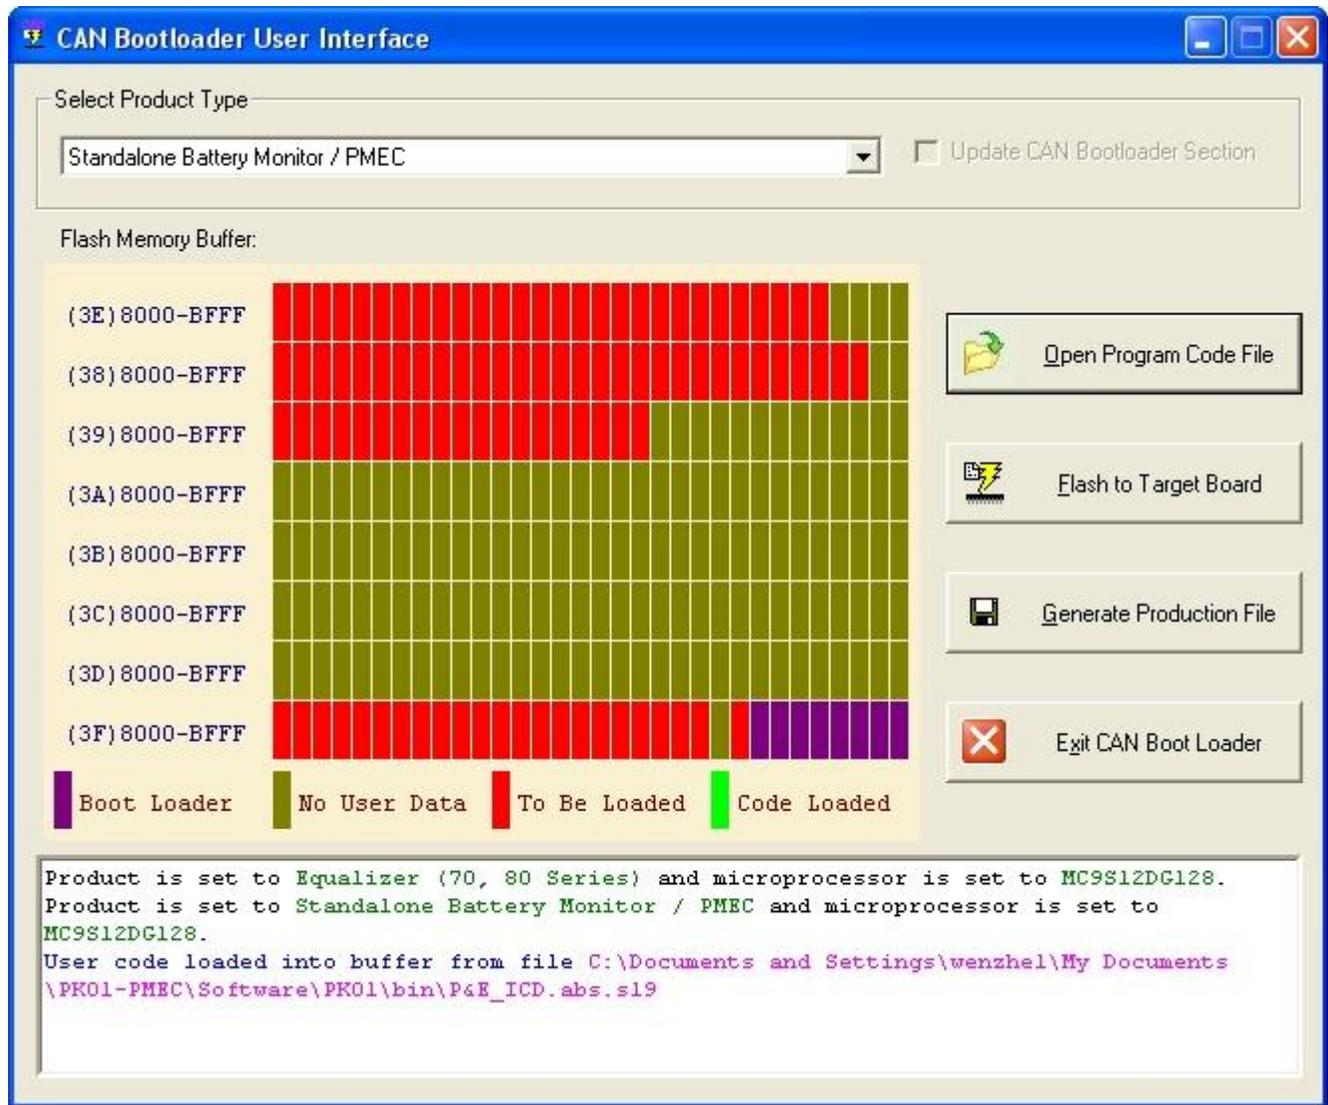

Figure 63. CAN Bootloader User Interface
This function is provided to update the firmware in Vanner products via CAN bus. It removes the need to disassemble the products and program via JTAG programmers. Click the "CAN Bootloader" icon in the Vanner CAN Interface main window to open the CAN bootloader User Interface, as shown in Figure 63.
**Step 2** - Click the “Open Program Code File” button and browse to the new firmware code file and open it. The code will be read from the file and shown in “Flash Memory Buffer” as red blocks (Figure 63).